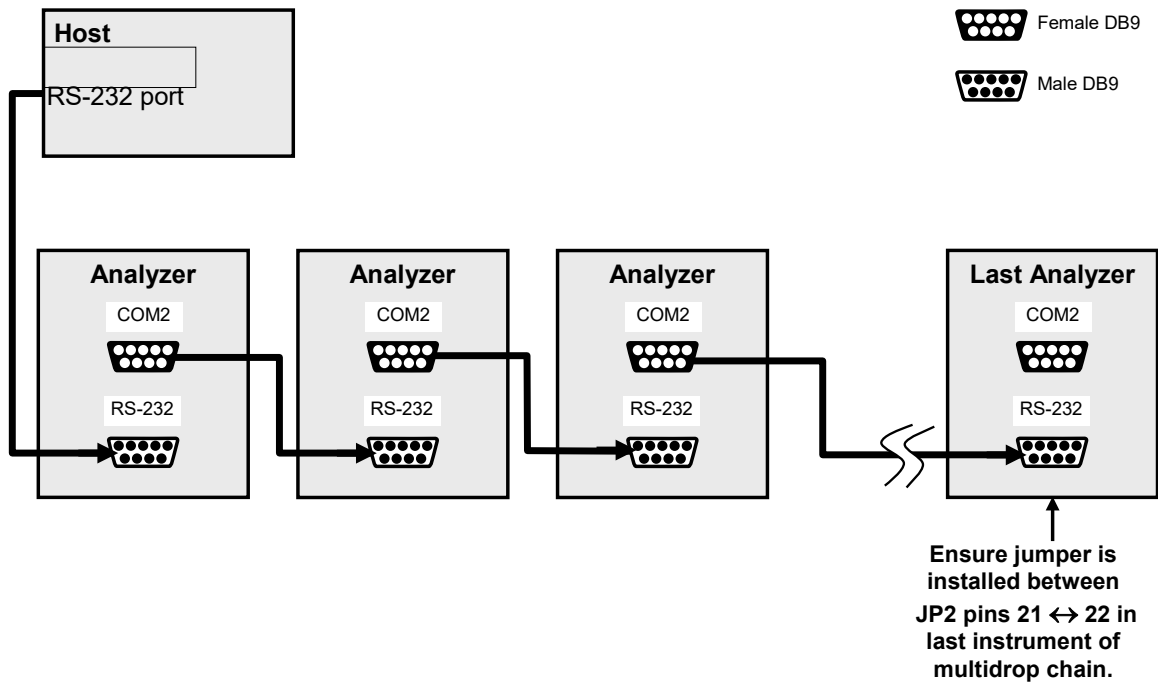

Figure 2-12. RS-232-Multidrop PCA Host/Analyzer Interconnect Diagram
5. Referring to Figure 2-12 use straight-through DB9 male → DB9 female cables to interconnect the host RS232 port to the first analyzer's RS232 port; then from the first analyzer's COM2 port to the second analyzer's RS232 port; from the second analyzer's COM2 port to the third analyzer's RS232 port, etc., connecting in this fashion up to eight analyzers, subject to the distance limitations of the RS-232 standard.